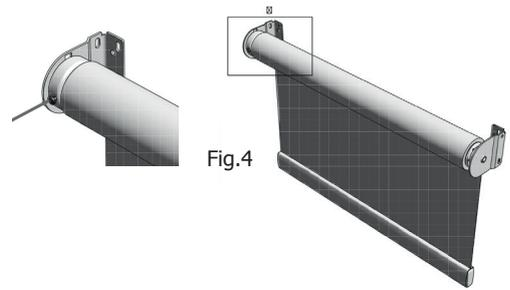

Fig.4
1. If you have lost all the tension on the blind, ensure the front locating pin is in. (Fig.4)